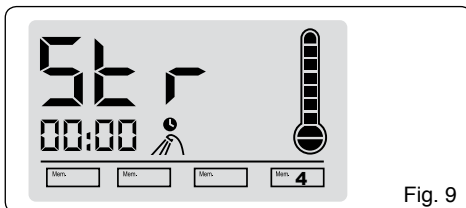

Fig. 9
Press the Power touch button Start/Stop , water will flow, 5tP will display for 3 seconds. (Fig. 9). The unit is on.
1. The handset holder (Fig.9) can be positioned on the riser rail at the required height by twisting the grip ring clockwise. Select handset and re-tighten. The angle of shower spray is adjusted by moving the handset in its holder.